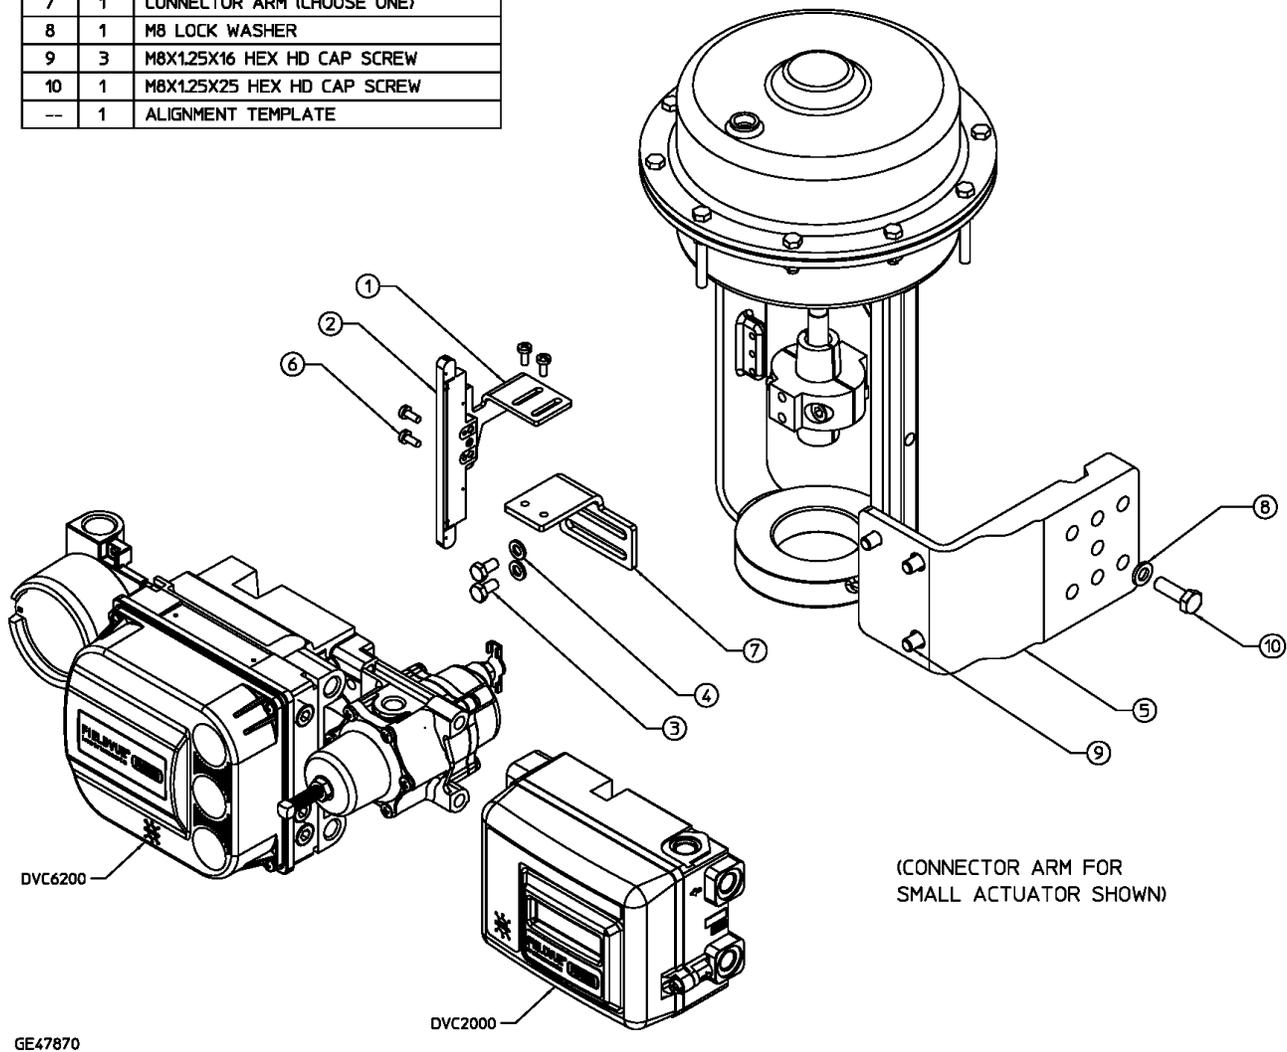

Figure 4. Mounting Parts Identification for Rib Style Mounting
b. Figure 4 shows rib style mounting. For rib style mounting, select the primary hole for most actuators. The alternate hole may be required for small actuators.